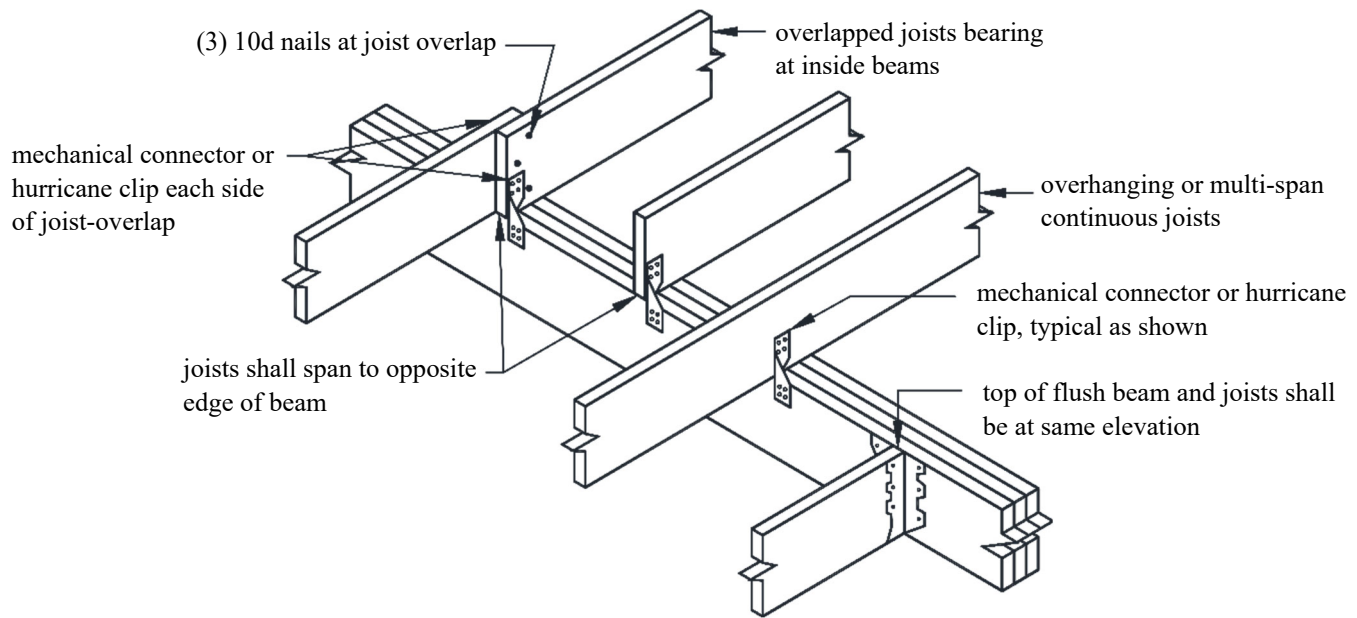

Figure 10: Joist-to-Beam Connection
- Each joist shall be attached to the beam in accordance with FIGURE 10.
- As shown in FIGURE 10, multi-span joists are permitted to span continuously over a dropped interior beam with one mechanical connector or overlap with a mechanical connector at each joist.